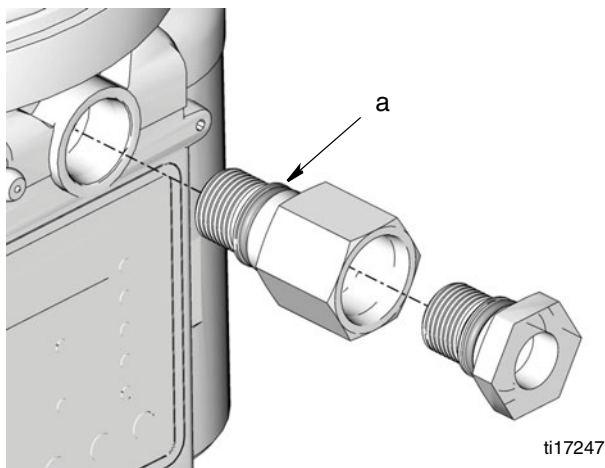

FIG. 7
2. Examine the pump outlet adapter. Be sure the o-ring (a) is correctly installed as shown in FIG. 7.